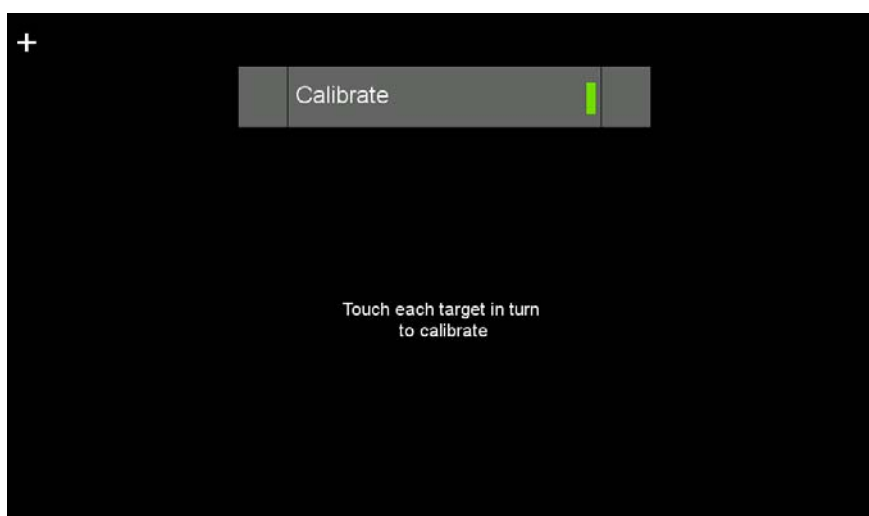

FIG. 11 Panel calibration
- To calibrate the touch panel, select *Calibrate* to open the *Calibration* page (FIG. 11).